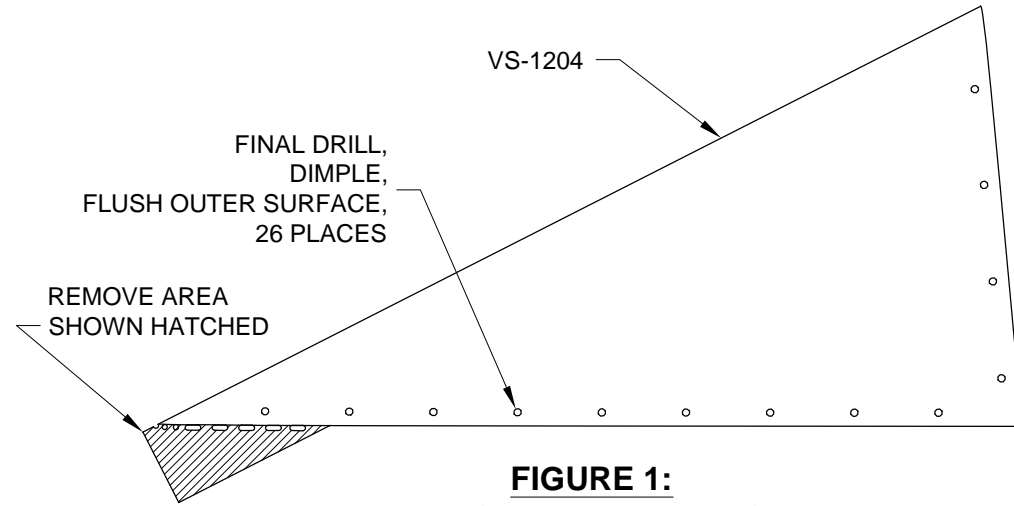

FIGURE 1:
Step 1: Remove the material from the VS-1204 Fwd Skin, called out in Figure 1.
Step 3: Final-drill #19, the nutplate screw holes in the VS-1204 Fwd Skin per call-out in Figure 1.
Step 5: Dimple the #19 holes in the VS-1204 Fwd Skin using a #8 dimple die as called out in Figure 1.